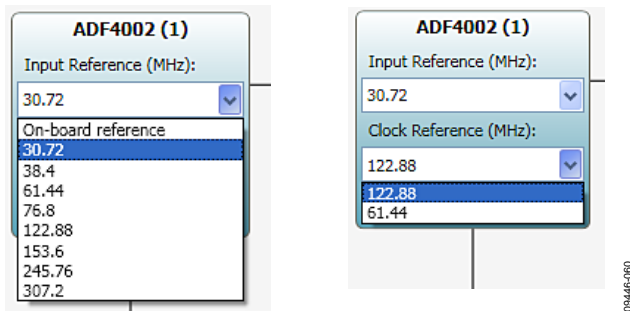

Figure 60. ADF4002 Controls
The ADF4002 (1) controls include drop-down menus for the **Input Reference (MHz)** and **Clock Reference (MHz)**, as shown in Figure 60. The input reference frequency can be supplied externally at one of the rates listed in the drop-down menu or the on-board 30.72 MHz crystal reference can be chosen. Choosing one of the external frequency rates disables the on-board crystal.